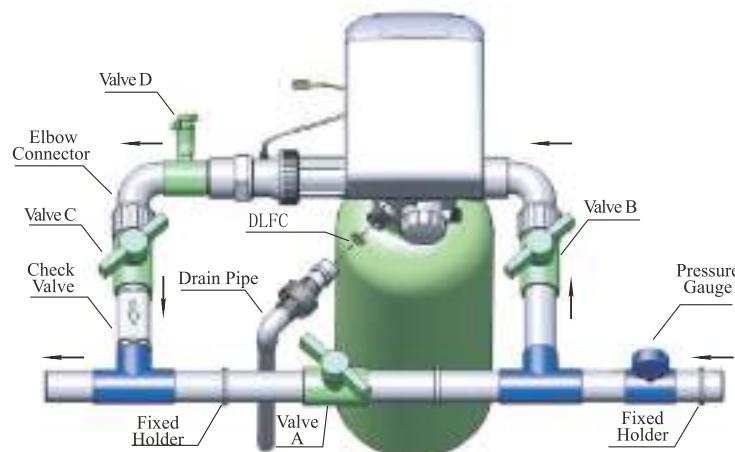

Figure 1-3
③Pipeline connection
a. As Figure 1-3 shows, install a pressure gauge in water inlet.
Insert drain line flow control into drain outlet and connect the drain outlet with the animated nut, as Figure 1-3 shows.